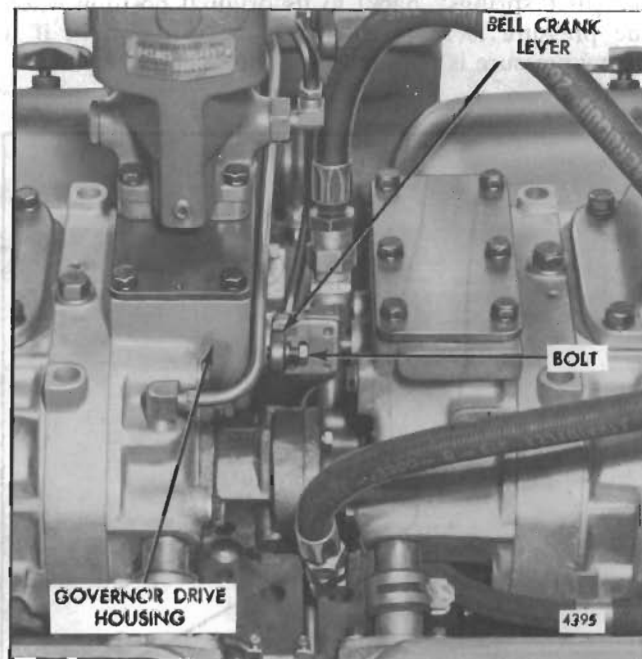

Fig. 3 - Positioning Bolt through Bell Crank Lever
5. Place the bolt (removed from the lower end of the vertical link) through the bell crank and into the recessed hole in the governor drive housing (Fig. 3).